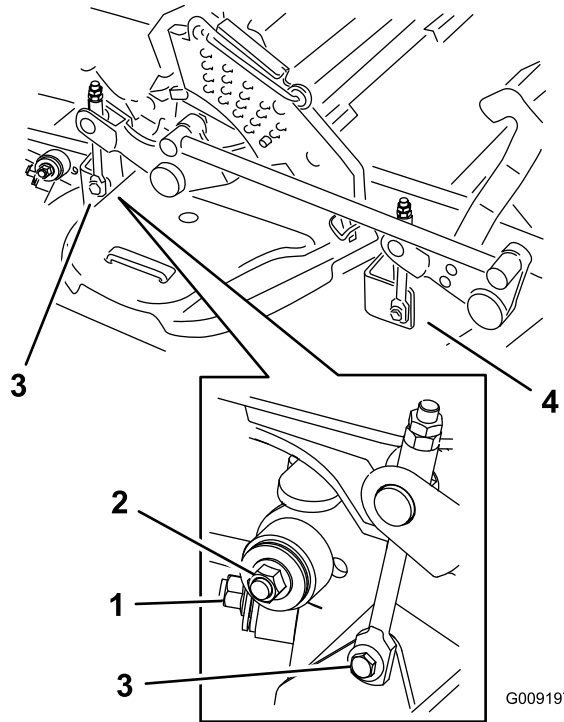

**Figure 105**
7. Remove and retain the hardware on both sides of the deck as shown in Figure 105 or Figure 106.